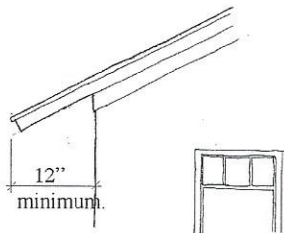

Figure 3b
- Eaves and rakes shall overhang at least 12 inches from the wall face (Figures 3b and 3c), except at traditional “Salt Box”-style house rakes and eaves.